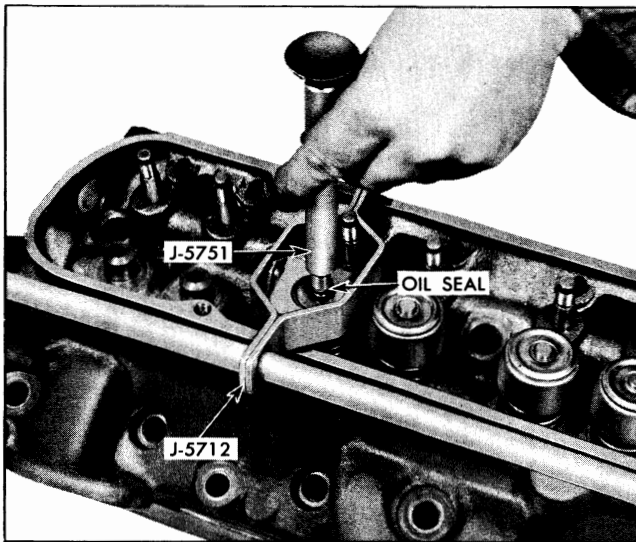

Fig. 6-42 Installing Valve Stem Seal with J-5751
1. Install valves, valve springs, valve stem shields, valve spring retainer cups, valve stem seals and retainer cup locks using suitable spring compressor. The valve stem seals must be installed in the second groove (from end of stem). Valve stem seal installer and tester J-5751 can be used to install this seal (Fig. 6-42).